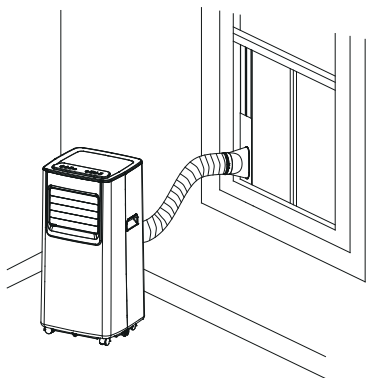
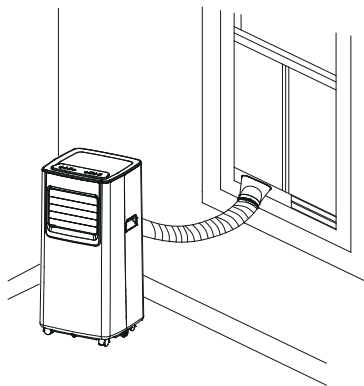

Figure 5
Figure6
- 2) Elongate the exhaust pipe and snap the flat end of the exhaust pipe joints into the hole of the window sealing plate assembly (as shown in Fig.5 and Fig.6) .